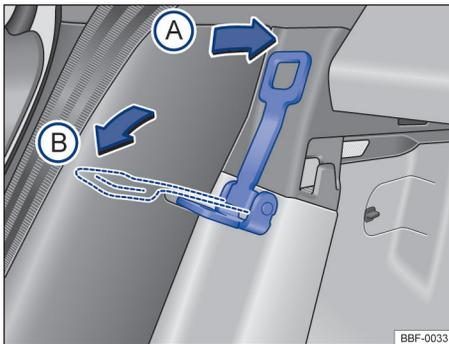

Fig. 64 Behind the rear seat: seat backrest rake adjustment lever
- **Position A**: place the lever → Fig. 64 in the direction of the arrow **A** to return the seat backrest to its original position.
- **Position B**: place the lever → Fig. 64 in the direction of the arrow **B** to expand the luggage compartment.
Volkswagen does not recommend assembling child seats with the rear seat in position ② → Fig. 64.